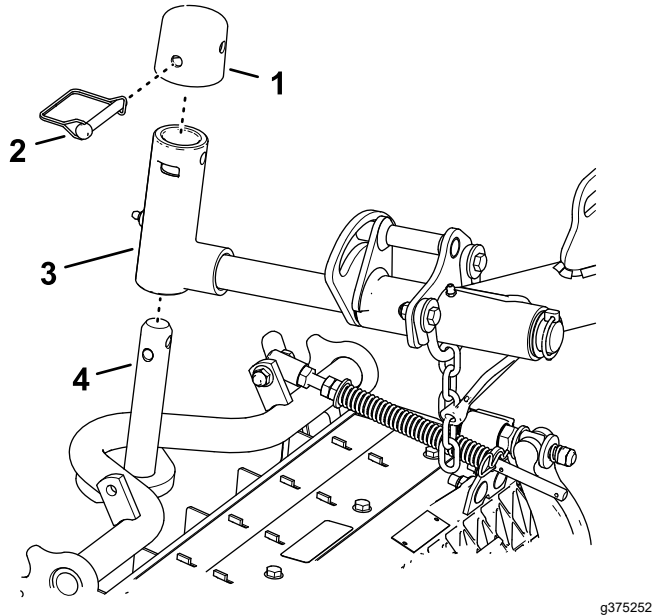

Figure 25
1. Slide a cutting unit under the lift arm (Figure 25).
**Locking the Cutting-Unit Pivot for Cutting Grass on a Hill Side**—Lock the cutting-unit pivots to prevent the cutting units from rotating downhill when cutting across the face of a hill. Use the hole in the lift-arm pivot shaft (Figure 25) to lock the cutting unit. Use the slot for a steering cutting unit.